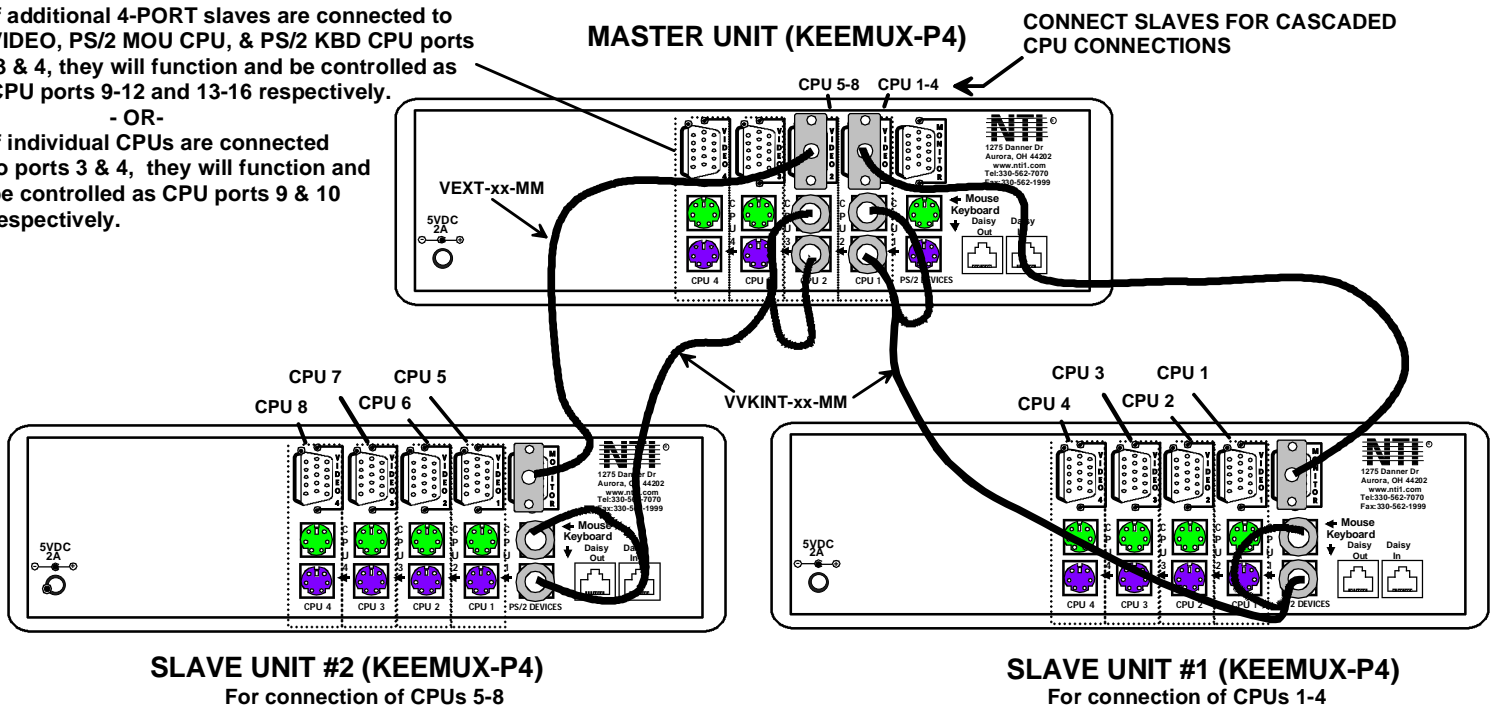

Figure 6- Cable connections for cascading
**FYI:** Port 1 of the master unit (with a 4-port slave unit connected to it) will function and be controlled as ports 1-4 (1-8 for an 8-port slave, 1-16 for a 16-port, etc.). Port 2 of the master unit (with a second 4-port slave unit connected) will function and be controlled as port numbers 5-8 (9-16 for an 8-port slave, 17-32 for a 16-port slave, etc.). See Fig. 6 on page 6.
- With a VVKINT-xx-MM or (2) VKEXT-xx-MMs, connect slave #1's PS/2 DEVICES ports to the master's CPU1 KEYBOARD and MOUSE ports.
- Repeat steps c and d for each additional slave unit, keeping in mind that each slave will connect to the next available master's port (i.e. slave #2 to master's VIDEO 2 and CPU 2 KEYBOARD and MOUSE, etc.). See Fig. 6 below.
- A connection to a CPU from the keyboard would be achieved by typing the appropriate port number. (See Fig. 6 on page 6.)
- When cascading, if not all of the ports are used on each slave attached to your system, THE PORT NUMBER(S) ASSOCIATED WITH THE UNUSED PORT(S) WILL NOT BE ACCESSIBLE when trying to control the switches connected to the system. (I.e. if ports 7 and 8 are not used on the first slave and an attempt is made to connect to ports 7 or 8 while in Command Mode, the KEEMUX will ignore the attempt. )